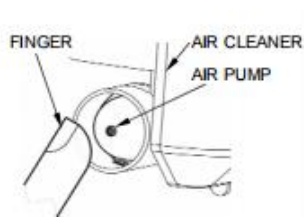

Fig. 11A
1. When starting cool engine, please press the air pump 1 to 3 times , Fig .11A